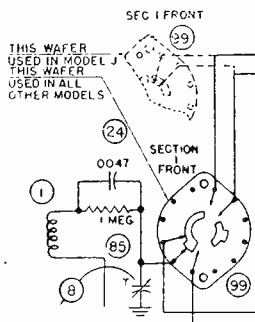

Fig. 1. Wafer used in Magnavox CR198 Series.
Section 1 front of item 99 is the same for all models except for J. This wafer is shown in Figure 1.